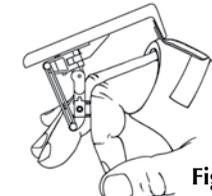

Fig. 10
5. Attach new Elastic Band(s) of the same color and quantity you removed (Fig. 10).